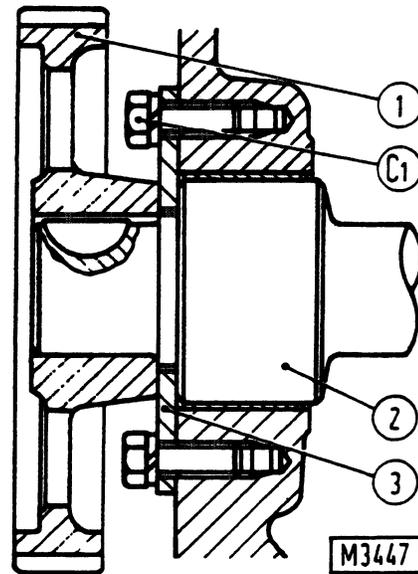

Fig. 18 - Section of camshaft drive.
- for camshaft drive gear (Fig. 18) use universal puller yoke. To install, heat gear ($180^{\circ}\text{C} - 356^{\circ}\text{F}$) and press it into camshaft after installing the key.
The camshaft (1, Fig. 17) is held in place at the front by a thrust collar (3, Fig. 18) where a gear (1), hot pressed and keyed, drives it.
- remove timing gear cover, remove screws (C₁, Fig. 18) securing the thrust plate to the timing housing and withdraw camshaft with gear.